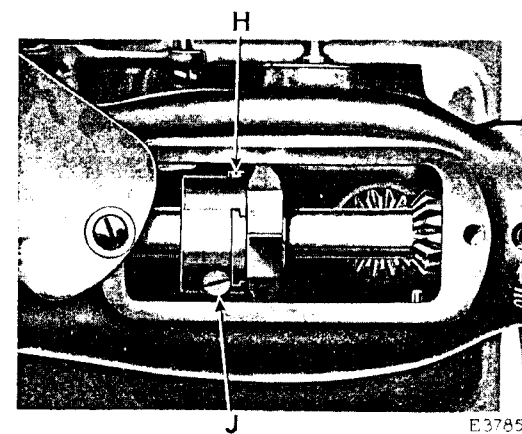

Fig. 16. Adjustment for Regulating Amount of Travel of the Needle Bar
Swing back the cover plate at the top of the machine and loosen the screw (H, Fig. 16) in the needle bar driving eccentric on the arm shaft. To increase the throw or amount of travel of the needle bar for a longer stitch, turn the large screw (J, Fig. 16) on the needle bar driving eccentric over to the left or upwardly. To decrease the throw of the needle bar for a shorter stitch, turn the large screw (J) over to the right or downwardly. When the required throw of the needle bar is obtained, firmly tighten the screw (H).
Swing back the cover at the top of the machine, as shown in Fig. 16, and apply oil to the gears and needle bar driving eccentric thus uncovered.